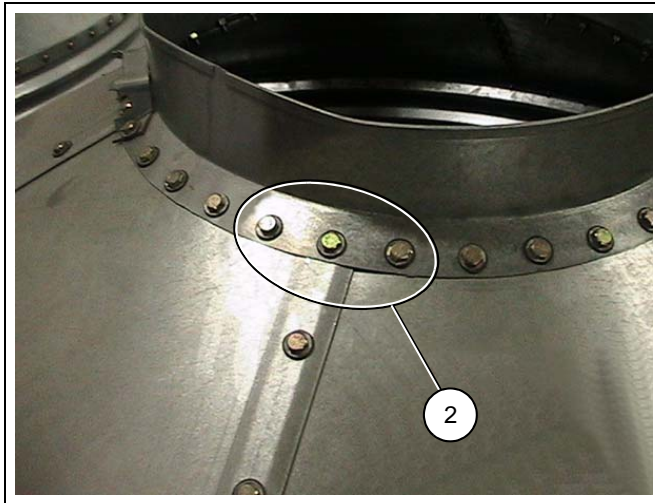

Figure 2B Anchor Point Location Centered over Roof Panel Seam
2. For maximum strength, place the anchor point over a roof panel seam. (See Figure 2B.)